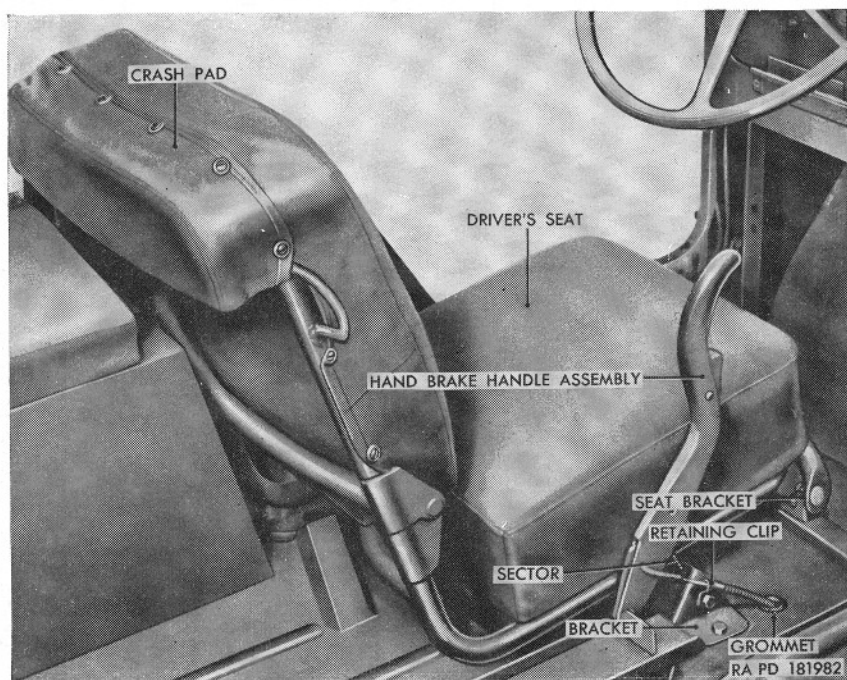
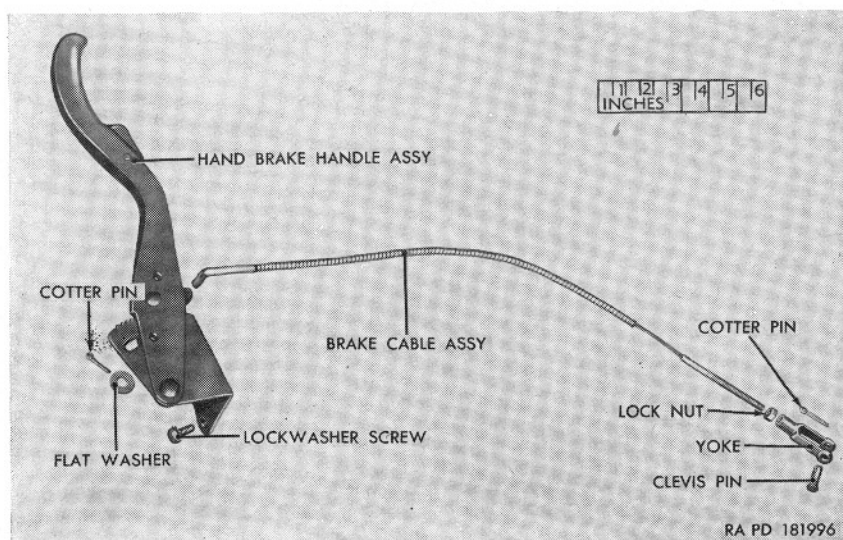
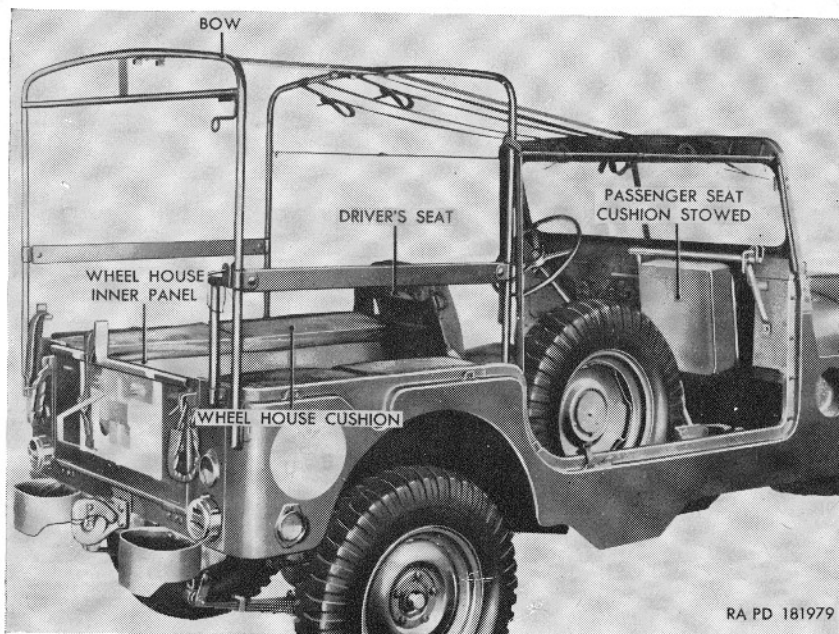
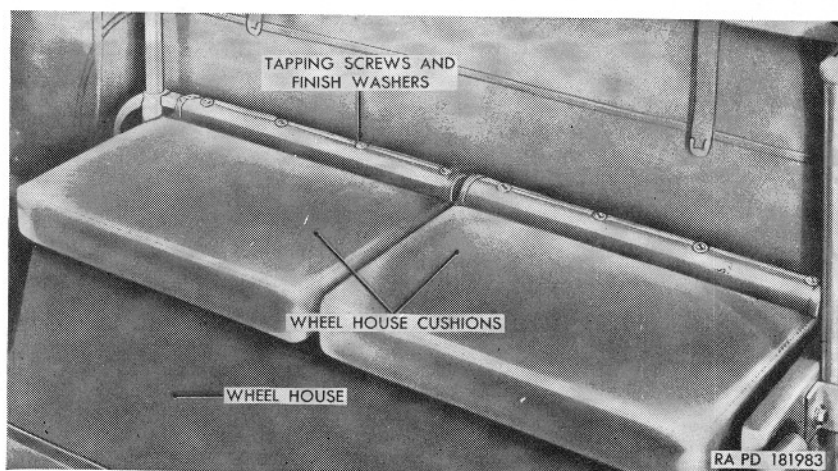

Figure 142.1. (Added) Hand Brake Handle and Driver's Seat Assemblies M170—Installed.
Figure 143.1. (Added) Hand Brake Assembly M170—Partially Exploded View.
Figure 158.1. (Added) Body 1/4-ton 4 x 4 front line ambulance M170.
Figure 158.2. (Added) Right wheel house cushions M170—installed.
c. (Superseded) *Hand brake.* The mechanical hand brake system is independent of the hydraulic service brake system. The hand brake serves primarily as a parking brake but can also be used to slow or stop the vehicle should the service brakes fail. When the brake is applied, an inner and outer shoe (fig. 143.1) contacts a brake drum mounted on the transfer companion flange. Drag on the drum slows or prevents rotation of the flange and rear propeller shaft, to slow or stop the vehicle. The hand brake handle is at the right of the driver's seat as shown in figure 142 for the M38A1 and figure 142.1 for the M170. The hand brake handle of the M170 is mounted to avoid interference with a patient on the lower litter rack. Difference in linkage can be seen by comparing figures 143 and 143.1.
- (1) Remove cotter pin and flat washer from cable assembly end (fig. 143.1) in driver's compartment. Remove grommet (fig. 142.1) from floor pan. Remove lockwasher screw from cable housing retaining clip (fig. 142.1). Spread clip and remove from cable housing.
b. Remove Hand Brake Handle Assembly (fig. 142.1).
- (1) Remove the cotter pin and flat washer securing the brake cable to the hand brake handle assembly and remove the cable from the handle.
- (2) Remove the three lockwasher screws securing the sector of the brake handle assembly to the bracket on the floor pan cover and remove the assembly from the vehicle.
- (1) *Brake cable assembly.* Loosen yoke lock nut (fig. 143.1). Unscrew the yoke from the cable assembly.
- (2) *Hand brake handle assembly.* Procedure for disassembly of the hand brake handle assembly M170 is the same as that for the M38A1 (par. 190d (2)).
- (6.1) (Added) *Brake cable assembly M170* (fig. 143.1). Replace a broken, frayed, or kinked brake cable assembly.
(7.1) (Added) *Cable adjusting yoke M170* (fig. 143.1). Replace a broken or otherwise damaged cable adjusting yoke.
b.1. (Added) *Assemble Brake Cable Assembly M170* (fig. 143.1). Install yoke lock nut on threaded end of cable.
c.1. (Added) *Install Hand Brake Handle Assembly M170* (fig. 142.1). Position the sector of the brake handle assembly on the bracket on the floor pan cover. Install the three lockwasher screws securing the brake handle assembly to the bracket.
- (1) Push brake cable up through holes in floor pans (fig. 26.8) with the yoke end down. Install retaining clip on cable housing (fig. 142.1). Position clamp (fig. 26.8) at rear of transfer and install lockwasher screw. Install clevis pin in yoke and hand brake lever (fig. 26.8) and secure with cotter pin. Install the cotter pin (fig. 26.8) in the cable assembly. Connect the tension spring to the skid plate and cotter pin in the cable. Install grommet in floor pan.
- (2) Insert the upper end of the brake cable assembly in the brake handle assembly and secure with a flat washer and cotter pin (fig. 142.1).
- (3) Insert a lockwasher screw (fig. 142.1) in the retaining clip and install the screw in the bracket.
a.1. (Added) *General M170.* The all steel, open-type body (fig. 158.1) of the ambulance is of seamed and welded construction. The body is equipped with a driver's seat (fig. 142.1), front passenger seat, and wheel house cushions (fig. 158.2), tool compartment, two medical supplies stowage compartments, battery stowage box, and bows for the installation of the top cover, side curtains, and doors. A well in front of the right wheel house provides for mounting the spare wheel and tire inside the body. A two-piece, folding-type windshield, with two windshield wiper vacuum motors, is secured to the body cowl. The formed sheetmetal hood and front fenders are removable. Access to the rear of the engine compartment, transmission, transfer, master cylinder and steering gear is provided by removable front floor pan covers and access plates. Reflex reflectors are bolted to the rear and sides of the body.
d. (Added) *Seat Assemblies M170.* The vehicle is equipped with a driver's seat, a front passenger seat (fig. 158.1), and four wheel house cushions (fig. 158.2) that serve as seats for rear passengers. The rear of the driver's seat is equipped with the driver's seat frame crash pad and cover (fig. 142.1).
b. Wheel House Seats. Remove the four oval-head tapping screws and finish washers (fig. 158.2) that secure each of the two right wheel house cushions to the top of the right wheel house seat and remove cushions from within vehicle. Remove the five oval-head tapping screws and finish washers that secure each of the two left wheel house cushions to the top of the left wheel house seat and remove the cushions from the vehicle.
b. Wheel House Seats. Position the two left wheel house seat cushions (fig. 158.2) in the vehicle and install the five oval-head tapping screws and finish washers in each cushion securing the cushions to the vehicle. Position the two right wheel house seat cushions in the vehicle and install four oval-head screws and washers in each cushion.